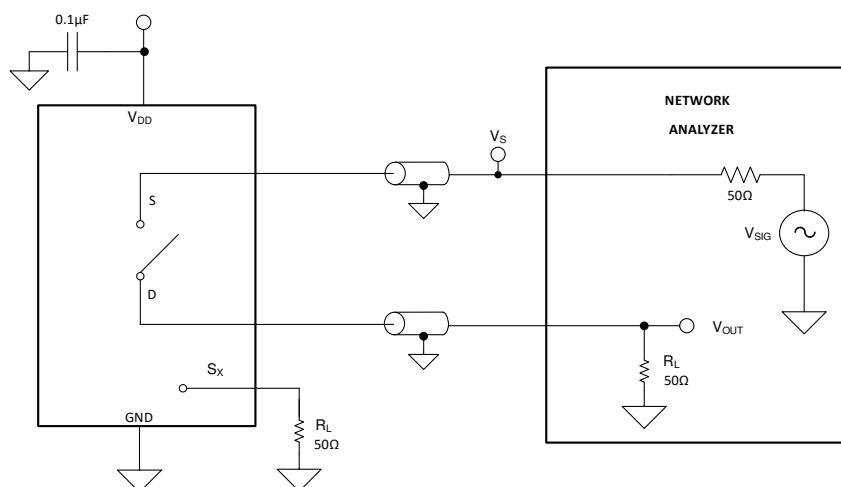

Figure 6-7. Off Isolation Measurement Setup
Off isolation is defined as the ratio of the signal at the drain pin (D) of the device when a signal is applied to the source pin (Sx) of an off-channel. Figure 6-7 shows the setup used to measure, and the equation used to calculate off isolation.